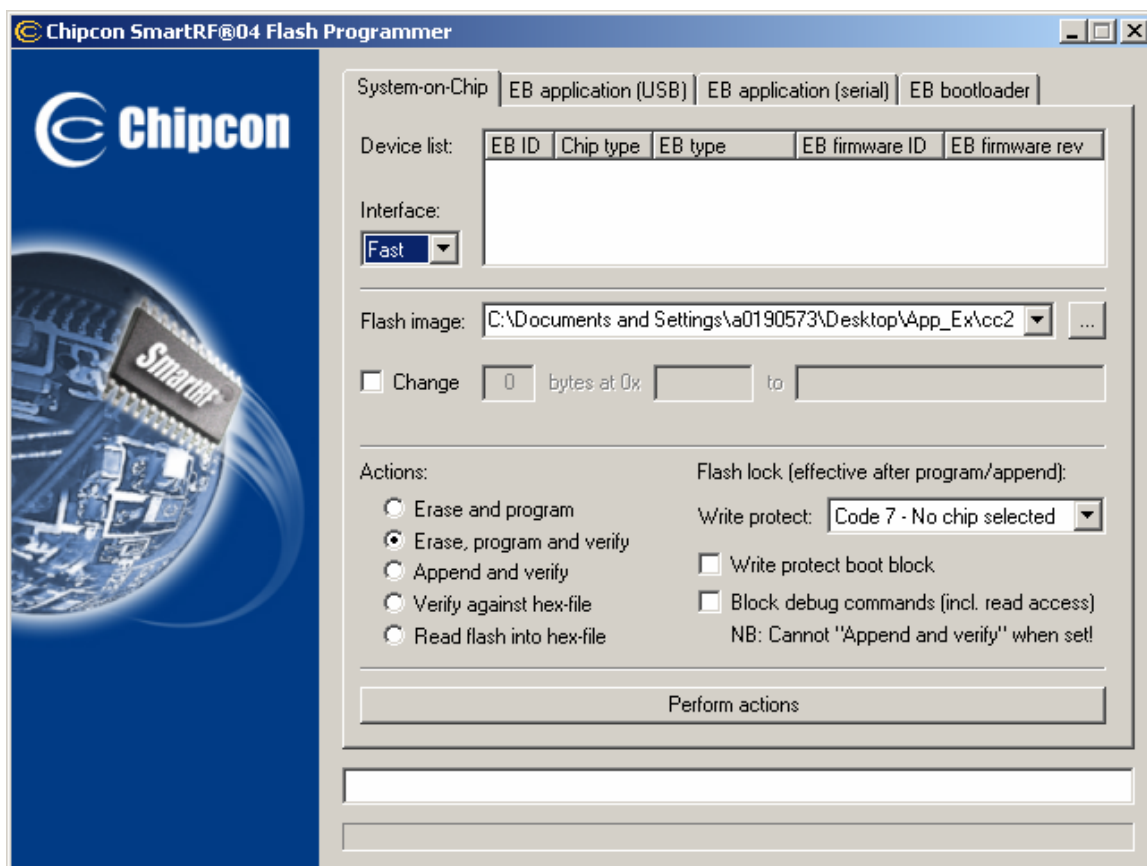

Figure 6. Flash Programmer
- Start the Flash Programmer. A screen shot is shown in Figure 6.